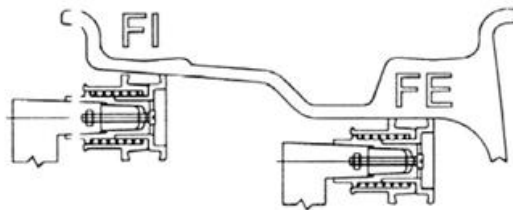

Fig. 9
- Step 1 : Draw the ruler head to (fig. 9) F1 position and stay for 4 seconds. (aI) distance value and (dI) diameter value will be read automatically.
- Step 2 : Draw the ruler head to (fig. 9) FE position and stay for 4 seconds. (aE) distance value and (dE) diameter value will be read automatically.